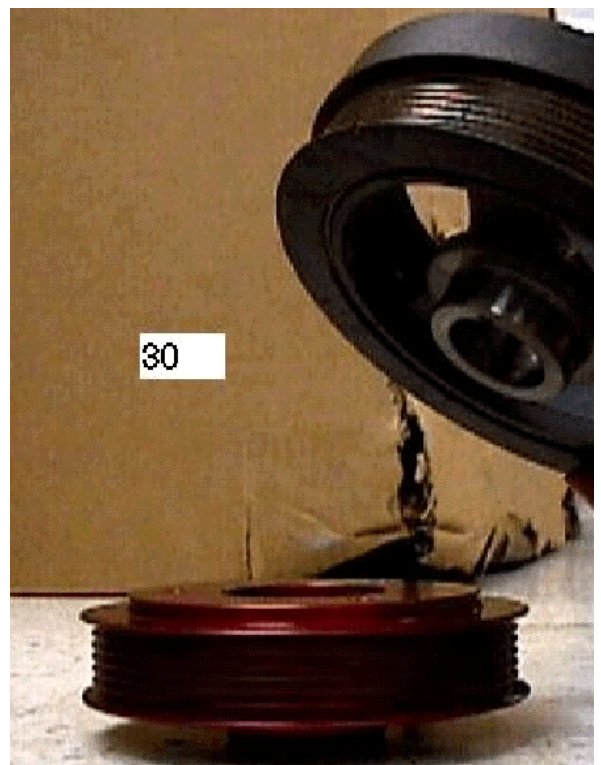

Figure 3
9. Line up the centers of the harmonic balancer and the Saleen alternator pulleys, noting the matching bolt patterns (FIGURES 3 & 4).